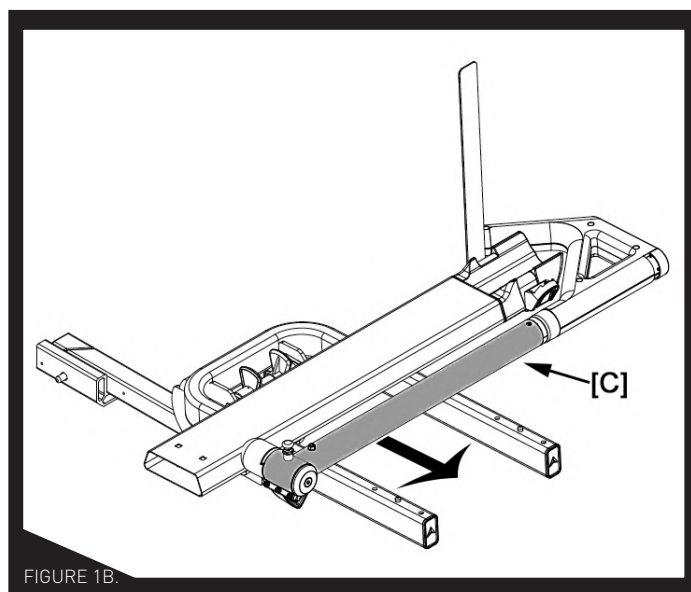

FIGURE 1B.
**IMPORTANT!** As shown in Figure 1B, Bike Support should be installed with Spar Arm [C] toward the open end of the U Support